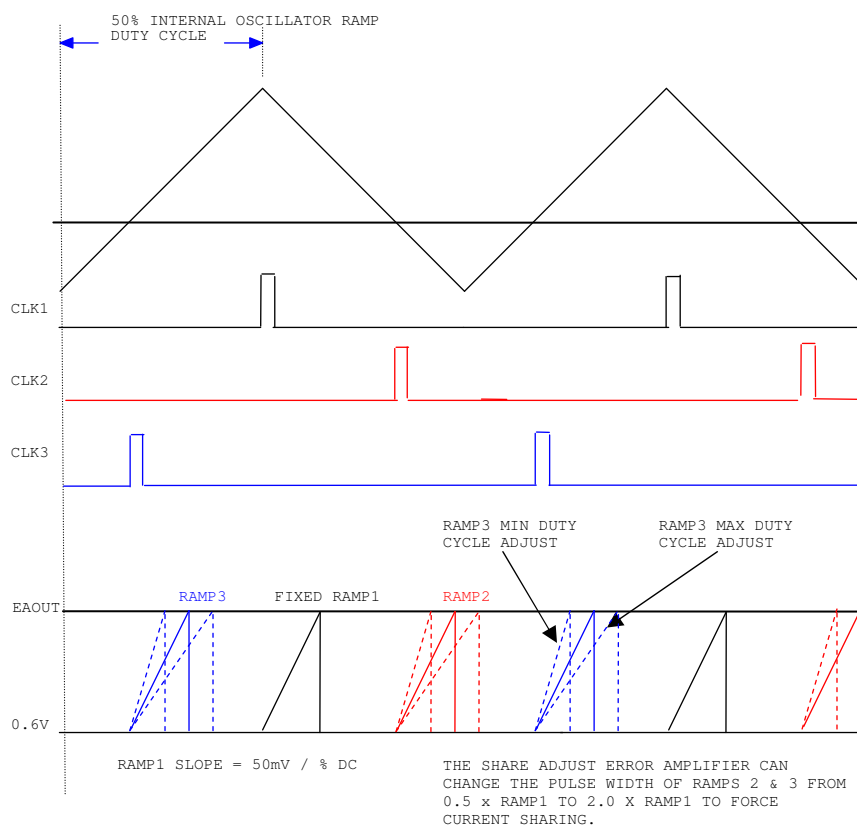
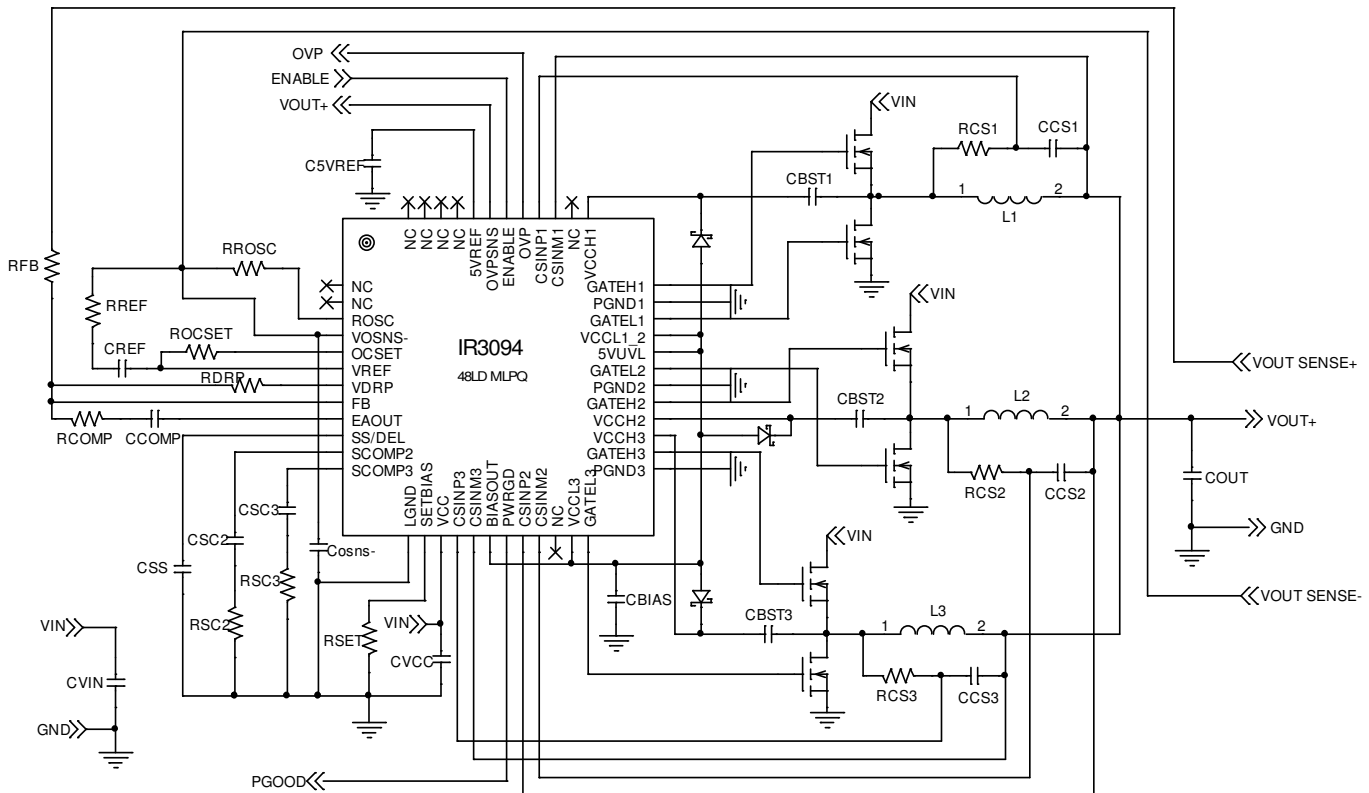

Figure 3 – 3 Phase Oscillator and PWM Waveforms
Figure 6 – System Diagram
Refer to Figure 3. Upon receiving a clock pulse, the RSFF is set, the internal PWM ramp voltage begins to increase, the low side driver is turned off, and the high side driver is then turned on. For phase 1, an internal 9pF capacitor is charged by a current source that is proportional to the switching frequency, resulting in a ramp rate of 50mV per percent duty cycle. For example, if the steady-state operating switch node duty cycle is 10%, then the internal ramp amplitude is typically 500mV from the starting point (or floor) to the crossing of the EAOUT control voltage. When the PWM ramp voltage exceeds the Error Amplifier's output voltage, the RSFF is reset. This turns off the high side driver, turns on the low side driver, and discharges the PWM ramp to 0.6V until the next clock pulse.
The oscillator frequency is programmable from 100kHz to 540kHz with an external resistor RROSC as shown in Figure 6. The Oscillator generates an internal 50% duty cycle sawtooth signal (Figure 3.) that is used to generate 120° out-of-phase timing pulses to set Phase 1,2 and 3 RS flip-flops. Once the switching frequency is chosen, RROSC can be determined from the curve in the Typical Operating Characteristics Section.
The inductor DC resistance R_L is utilized to sense the inductor current. The current limit threshold is set by a resistor R_{OCSET} connected between the OCSET and VREF pins, as shown in Fig6. I_{LIMIT} is the required over current limit. I_{OCSET} , the bias current of OCSET pin, is set by R_{ROSC} and is determined by the curve in the Typical Operating Characteristics Section. OCP need to satisfy the high temperature condition. R_{L_MAX} and R_{L_ROOM} are the inductor DCR at maximum temperature T_{L_MAX} and room temperature T_{ROOM} respectively, the maximum inductor DCR can be calculated from Equation (9)
The voltage at the VDRP pin is an average of three phase Current Sense Amplifiers and represents the sum of the VREF voltage and the average inductor current of all the phases. The VDRP pin is connected to the FB pin through the RDRP resistor, see figure 6. The Error Amplifier forces the voltage on the FB pin to equal VREF through the power supply loop therefore the current through RDRP is equal to (VDRP-VREF) / RDRP. As the load current increases, the VDRP voltage increases accordingly which results in an increase in RFB current, positioning the output regulated voltage lower thus making the output voltage reduction proportional to an increase in load current. The droop impedance or output impedance of the converter can thus be programmed by the resistor RDRP. The offset and slope of the converter output impedance are independent of the VREF voltage.
The maximum and minimum duty cycle adjust range of Ramps 2 & 3 compared to Ramp1 has been limited to a minimum of 0.5x and a maximum of 2.0x typical (see Figure 3.). The crossover frequency of the current share loop can be programmed with a capacitor at the SCOMPX pin so that the share loop does not interact with the output voltage loop.